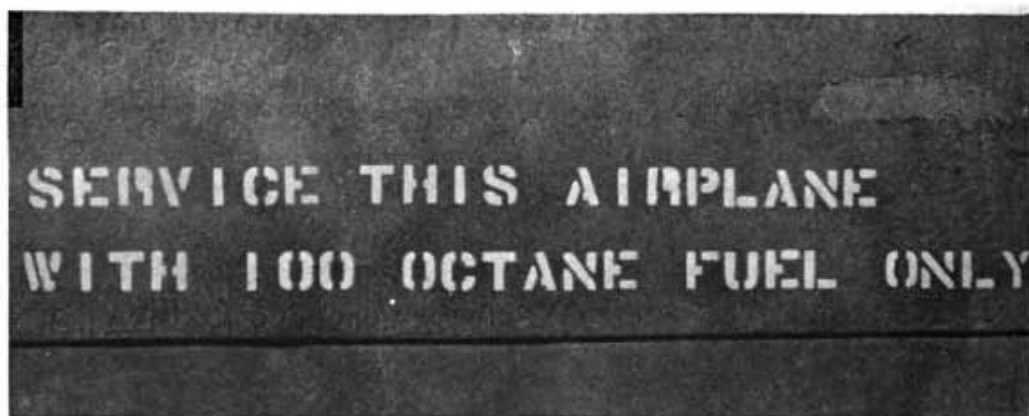

Figure 43. Fuel octane-rating label.
(2) If desired, it is safe to make immediate take-offs, after oil dilution has been used, without normal warm-up, provided there has been a rise in oil temperature, oil pressure is steady, and the engine is running smoothly. Cold oil properly diluted has the same viscosity as hot undiluted oil and, therefore, the same ability to circulate and properly lubricate an aircraft engine.
a. Correct grade of fuel. When refilling fuel tanks, the correct octane-rating fuel must be used. Failure to use the correct fuel will result in detonation and excessive loss in engine power. To prevent the accidental use of incorrect fuel, the octane rating of the fuel to be used is stenciled in $\frac{1}{2}$ -inch letters near the filler neck. (See fig. 43.)